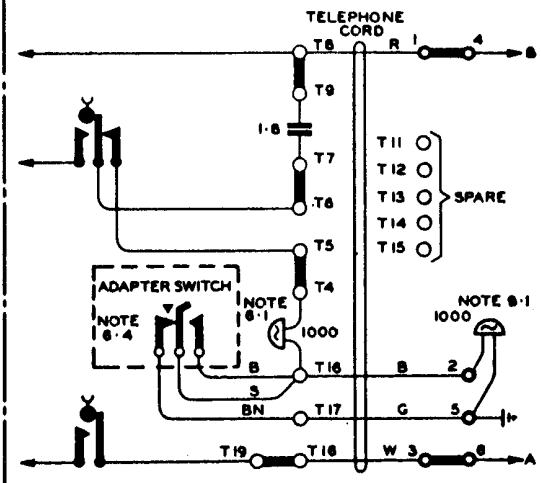

FIG. 9
6.4.1 Fit adapter switch HC 140 (locking) with label HC 142.... (colour) to mounting bracket in telephone. Remove dummy button from case. Replace the 3-wire cord HC 543.... with a 4-wire cord KC 729.... and connect as shown in Fig. 9.
6.4.2 To silence the telephone bell when the extension bell is switched on move the blue adapter switch wire from T16 to T4 in Fig. 9.